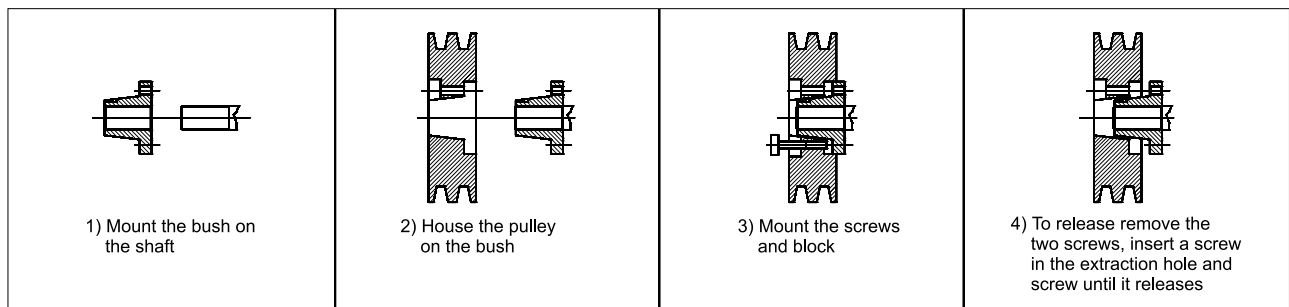

FIG. 25 (Assembling the pulleys)
5.6.3- Assembling the electric motor (Execution 12 - 9 Arrangement 18 - 19) (FIG. 25)
After having screwed the electric motor, the correct assembly of the pulleys has to be performed (see assembling instructions FIG. 25).